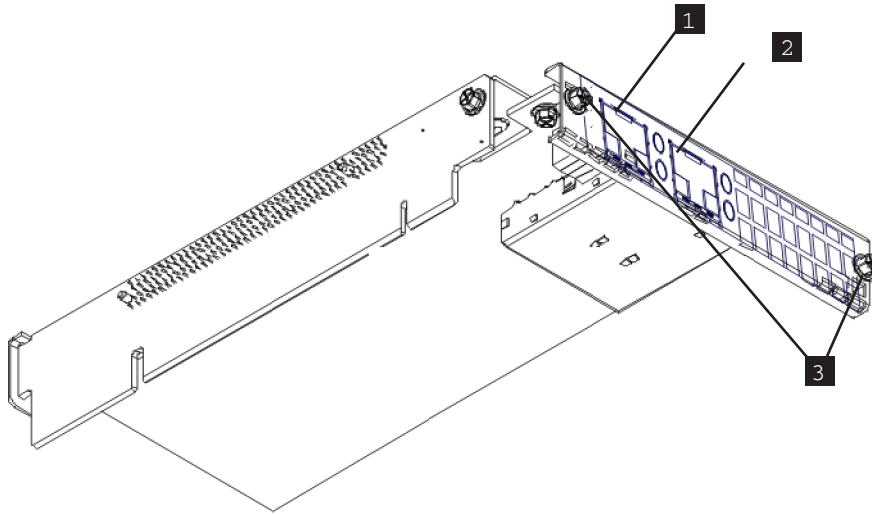

Figure 220. 2145-CG8 10 Gbps Ethernet riser-card assembly with cutaway view of back rail
6. Anchor the Ethernet riser-card assembly using two fastening screws from the back of the node, as shown in the cutaway view of a section of the rail in Figure 220 on page 265.